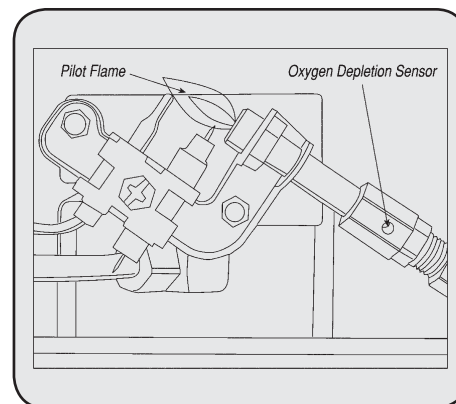

Figure 6
- Visually inspect the pilot flame and burner periodically during use. The pilot flame should be blue in color (not yellow) and will extend to the thermocouple. The flame will surround the thermocouple just below the tip. See Figure 6.
3. Remove (4) four screws that secure the rear cover (ref. # 3) to the heater.
5. Remove (3) screws attaching lower baffle to expose burner air openings.
8. Inspect and clean pilot (mounted to bracket) by using a vacuum or apply air pressure through the holes in the pilot indicated by the arrows in Figure 6.
10. Reinstall lower baffle with (3) screws.
11. Slide back cover over (2) plastic hooks on top of heater. Make sure rear cover aligns with plastic side covers and reinstall (4) screws to hold in place.
- If the heater is to left "OFF" for a considerable period of time, the propane (LP) gas supply to the heater should be turned off as close to the gas source as possible. In the case of portable use, the gas should be turned off at the propane (LP) gas supply cylinder.
- If the heater is put into storage, make sure to disconnect the propane (LP) gas cylinder.